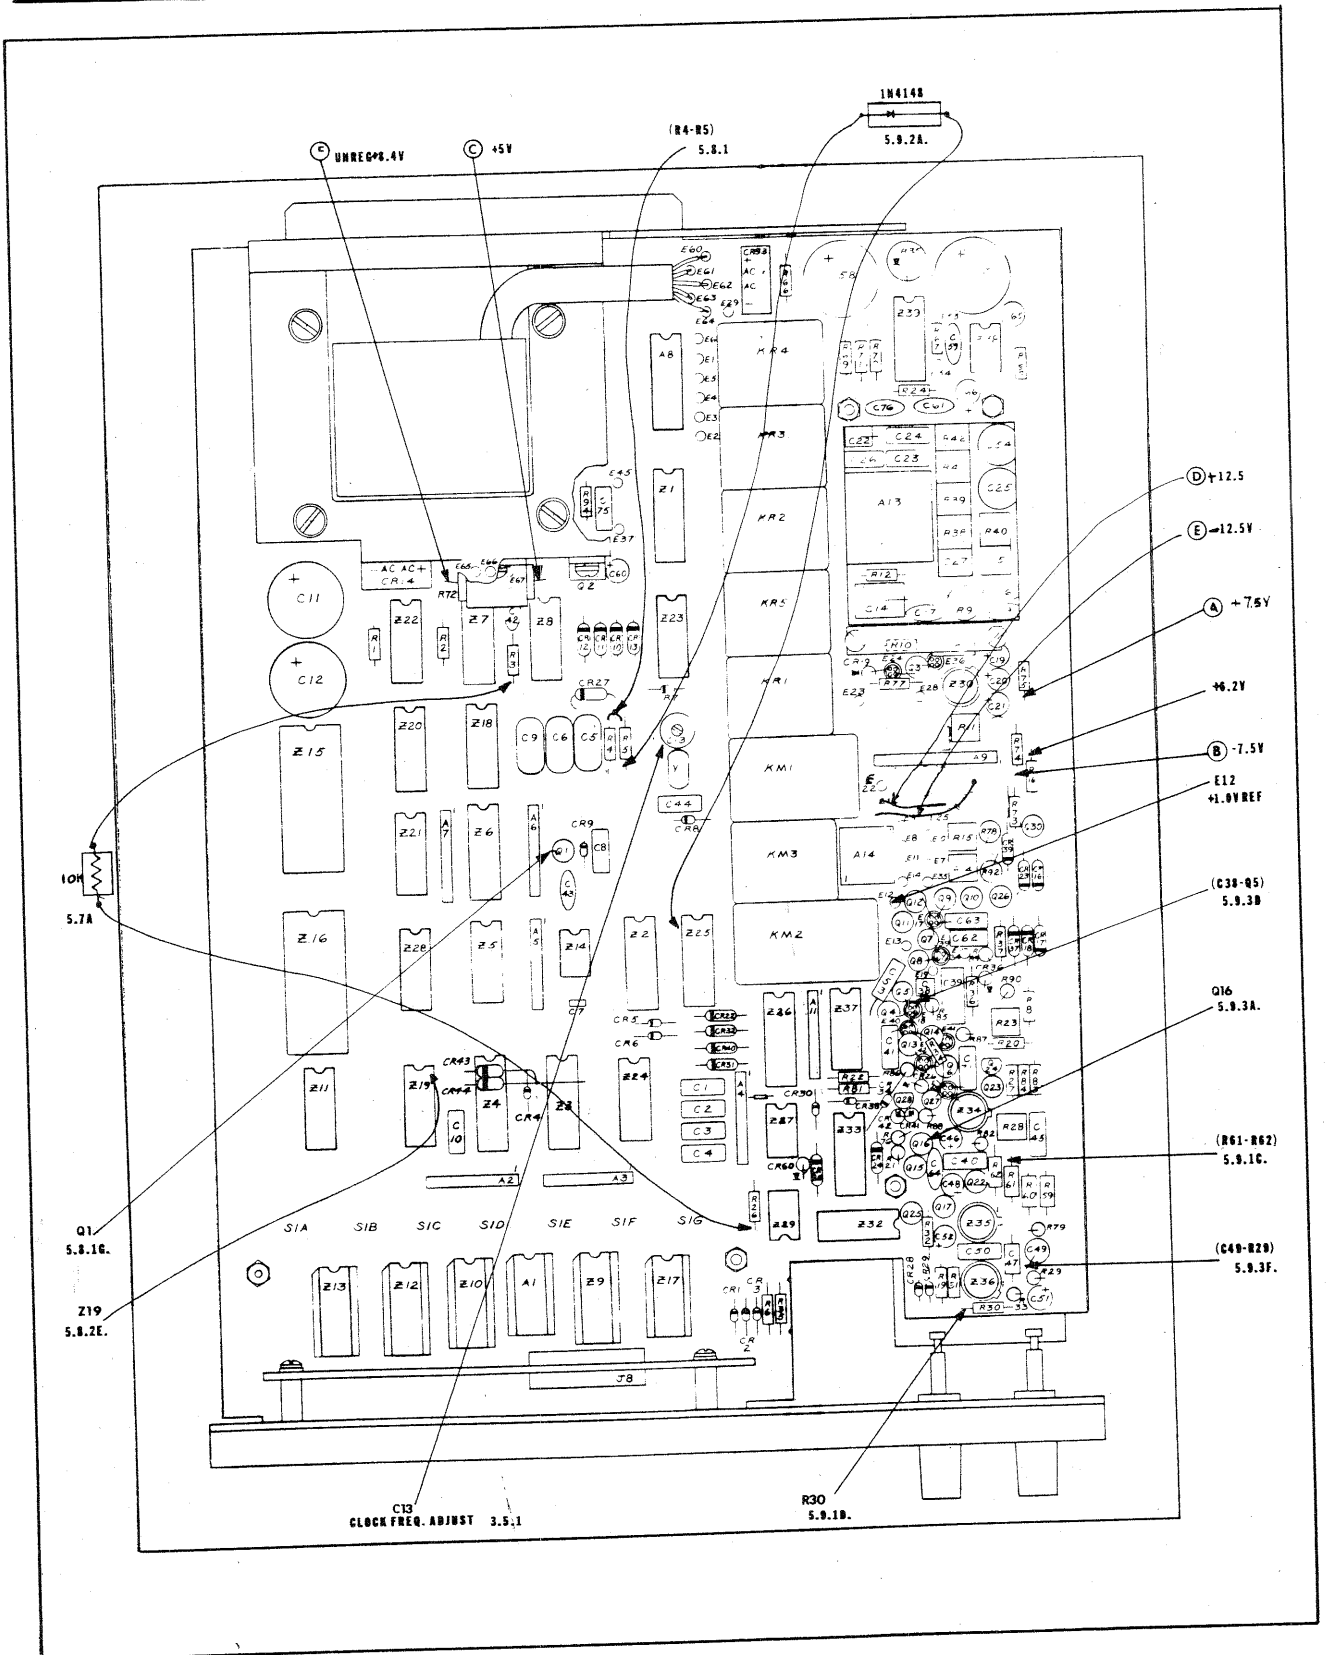

Fig. 5-1. Main Assembly, test points and parts location
a. The printed circuit board (Figure 5-1) shows the grouping of major multimeter functions. These correspond, generally, to the schematics in Section 6. When the GUARD is removed, the floating Analog power supply and the analog portion of the A/D Converter and Signal Conditioner are revealed.
a. Use DC Voltmeter, $\pm 10.000V$ range, accuracy at least $\pm 0.05\%$. Measure voltages with respect to R_x Lo (See Figure 5-1), and check for values below.
d. Install a 10 kilohm jumper between Z7-6 and Z29-7. See Figure 5-1; note that the connection points are picked up at their respective connections to R3 and R26.
a. Use oscilloscope with at least 5 MHz bandwidth and examine waveform at Z6-9 with respect to digital ground. The Z6-9 input should be sensed at the junction of R4 and R5 (See Figure 5-1). The frequency of the clock should be $600 \text{ kHz} \pm 0.20 \text{ kHz}$ and the scope time base should be adjusted accordingly. Use oscilloscope X10 probe, and adjust scope vertical scale to be able to verify that clock pulse amplitude exceeds 4.5V and that duty cycle is about 50%. Proper display indicates proper operation of Y1 and Z18-10 circuitry.
f. RESET Check. Synchronize the scope with the RESET control pulse from Z7-6 (connection at the R3 terminal is recommended as shown in Figure 5-1). Observe the pulse output at Z12-9 which should appear at start of sweep and be $\sim 4.5V$ in amplitude. This pulse masks the first count after the second carry. Pulse width should be 1.8 usec to 2.2 usec.
(1) Connect 10K jumper between Z7 pin 6 and Z29 pin 7. (Access to these points are better available at their junctions with R3 and R26, respectively, as shown in Figure 5-1.)
(2) Deselect all range and mode pushbuttons.
(3) Observe display of +00000. No decimal points and all digits of equal intensity.
(4) Select Ranges X.1 through X10K and observe progression of decimal point from left to right. Annunciator should be blanked.
(5) Select AUTO ranging and observe decimal point progress from right to left and value of +.00000 on display.
(1) Remove R3 terminal of 10K jumper as of 5.8.2 d. Connect it to Z19-12 and -13 (bussed together as shown in Figure 5-1).
(2) Observe display; check for blanked value, decimal point in X1000 position, and positive (+) polarity sign.
(3) Select AC measuring mode. Observe that the polarity sign is blanked.
(4) Select KΩ measuring mode. Observe movement of decimal point to x10K (extreme right) position